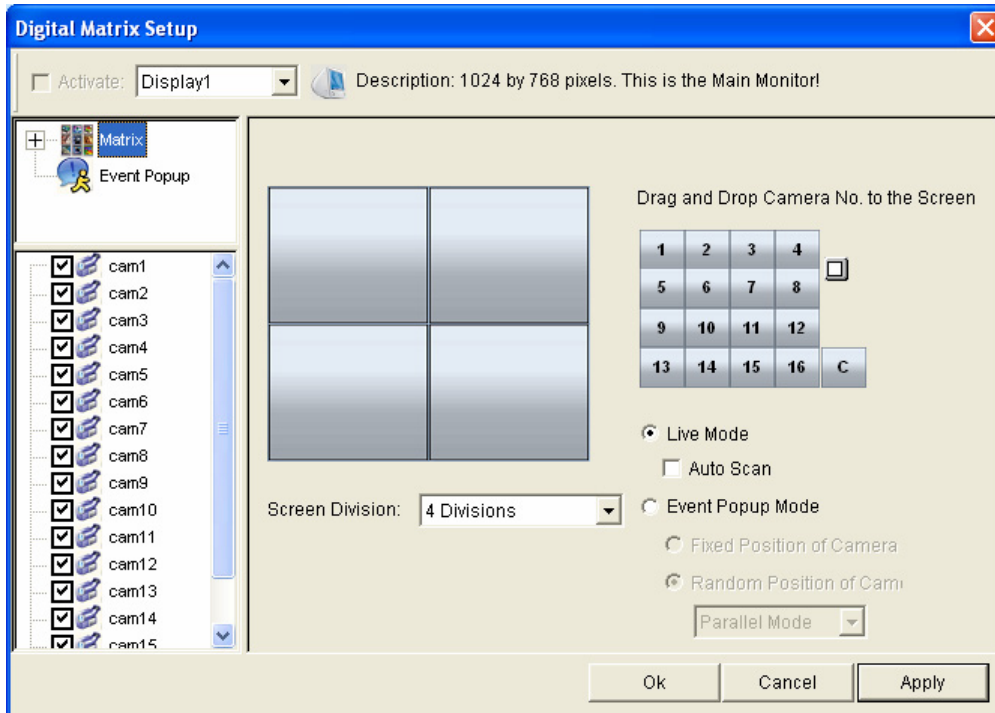

Figure 3-35
9. In the upper-left column, click the **Matrix** icon and return to Figure 3-35.
4. Click the **Matrix** icon and return to Figure 3-35. Ensure the **Live Mode** option is selected.